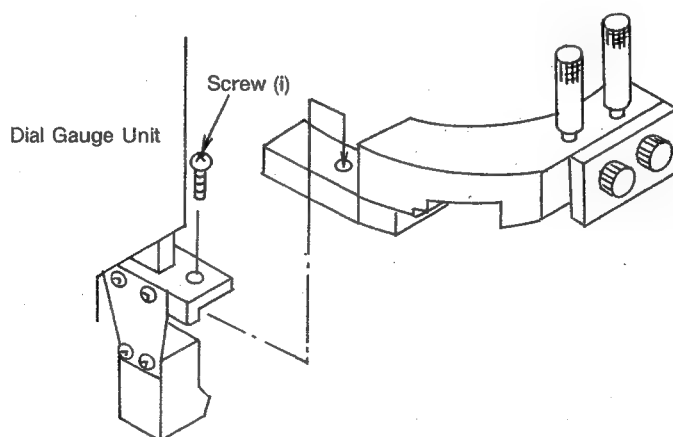

Fig. 7-7-7
- 2) Set a scale of the dial gauge as shown in figure 7-7-7.
- 7) Loosen the a screw (i) and remove the Dial Gauge Unit from the Base Unit. (Refer to figure 7-7-7)